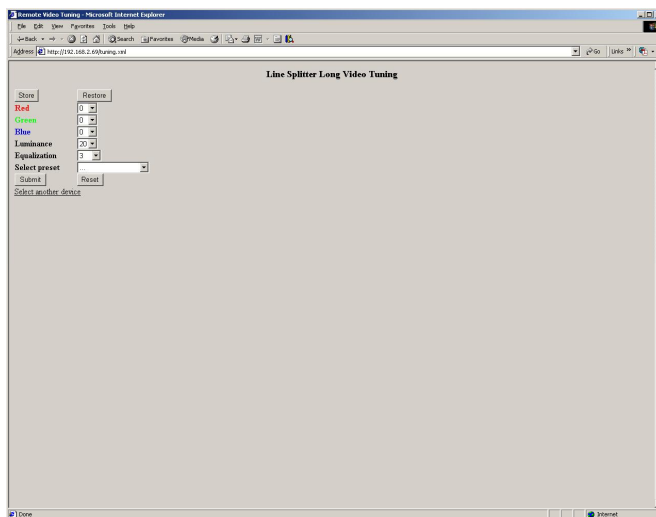

Figure 40 Remote tuning web page
3. Select a unit and press **Submit**. The tuning page appears, see Figure 40.